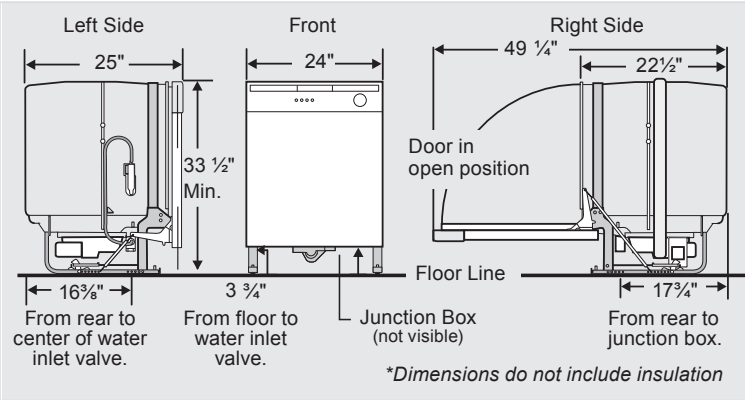

Figure 3
- Review dimensions in Figure 3 to locate dishwasher's drain, water, and electrical connections.
- Note the locations of electrical supply and dishwasher's electrical junction box on right underside of unit behind kickplate assembly. See Figure 3.
- Locate the hot water supply connection and the dishwasher's water inlet valve. See Figure 3.